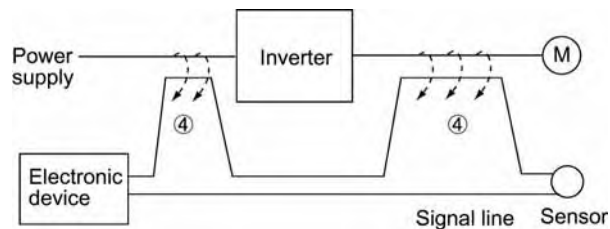
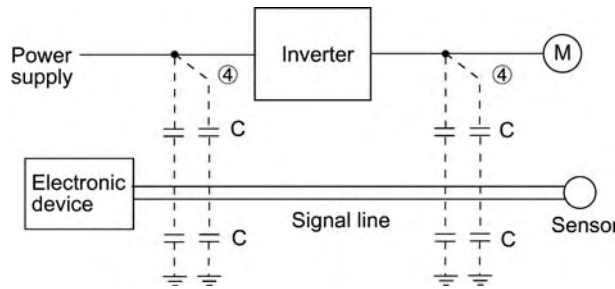

Figure A.4 Electromagnetic Noise
Figure A.5 Electrostatic Noise
(2) Induction noise
When wires or signal lines of peripheral devices are brought close to the wires on the input and output sides of the inverter through which noise current is flowing, noise will be induced into those wires and signal lines of the devices by electromagnetic induction (Figure A.4) or electrostatic induction (Figure A.5). This is called "induction noise" ④.